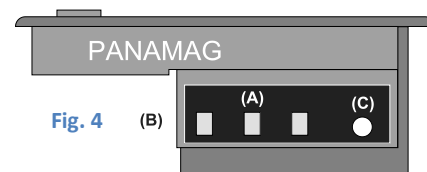

Fig. 4
- **Fig.4:** Bend the lid (B) to remove the battery. If the battery is too tight, you can assist the removal by carefully pushing a small screwdriver/pin through the rear hole (C).
- When re-inserting the battery always make sure battery contacts match the contacts inside the battery compartment (A).
- The lid (B) will lock the battery in place after inserting the battery.